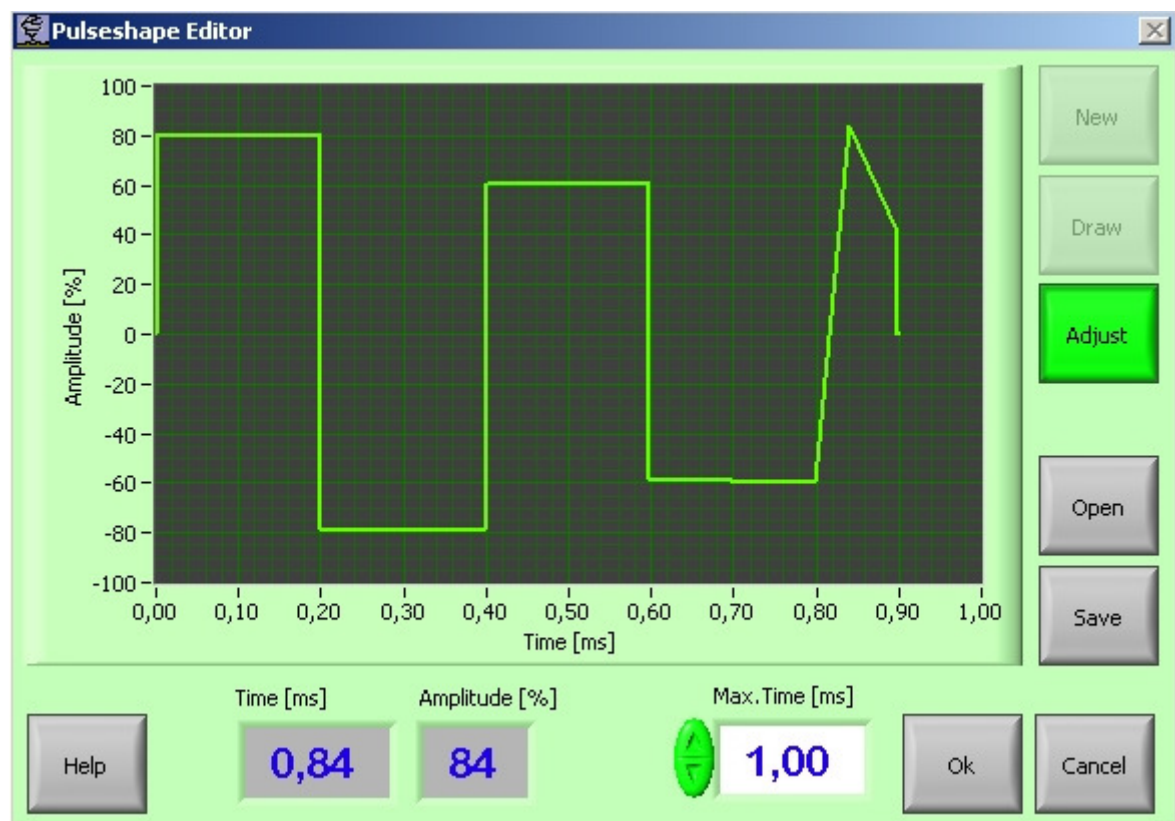

Figure 20: Changing an existing pulse shape
- If the <Draw> button is pushed again and a pulse shape exists in the pulse graph the <Adjust> button becomes enabled, otherwise it is disabled and dimmed. Push the <Adjust> button to change an existing pulse shape. The button's background changes to green colour (Figure 20). As soon as you click close to the point you want to change in the pulse graph area, the shape's colour changes to green, indicating that it is in adjust mode. The selected point can be changed in its time and amplitude by moving the mouse now. By a left mouse click the point is fixed in its new position, the shape's colour changes to blue again. The pulse shape can also be extended to the right by changing the value in the control <Max. Time [ms]>.